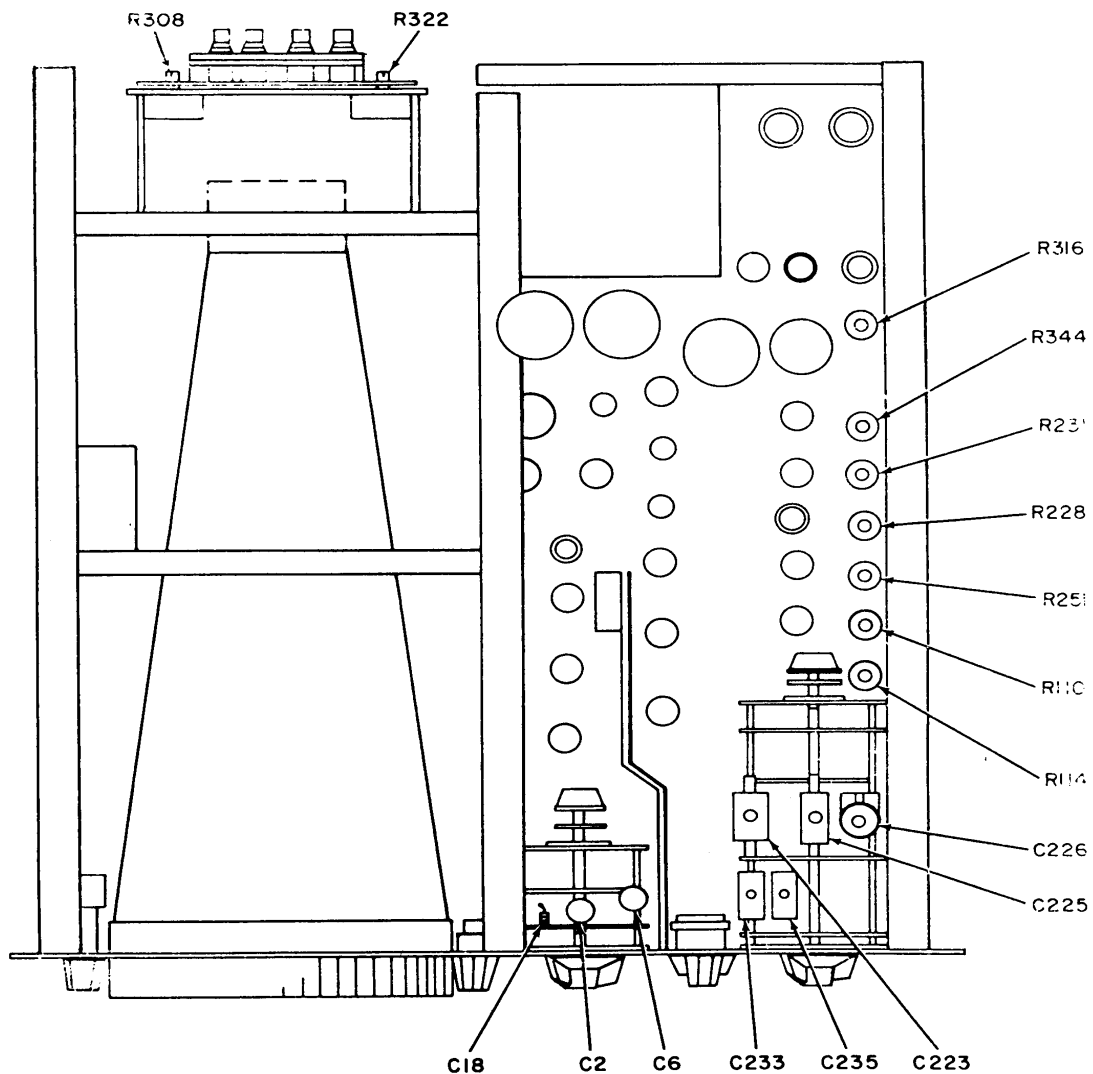
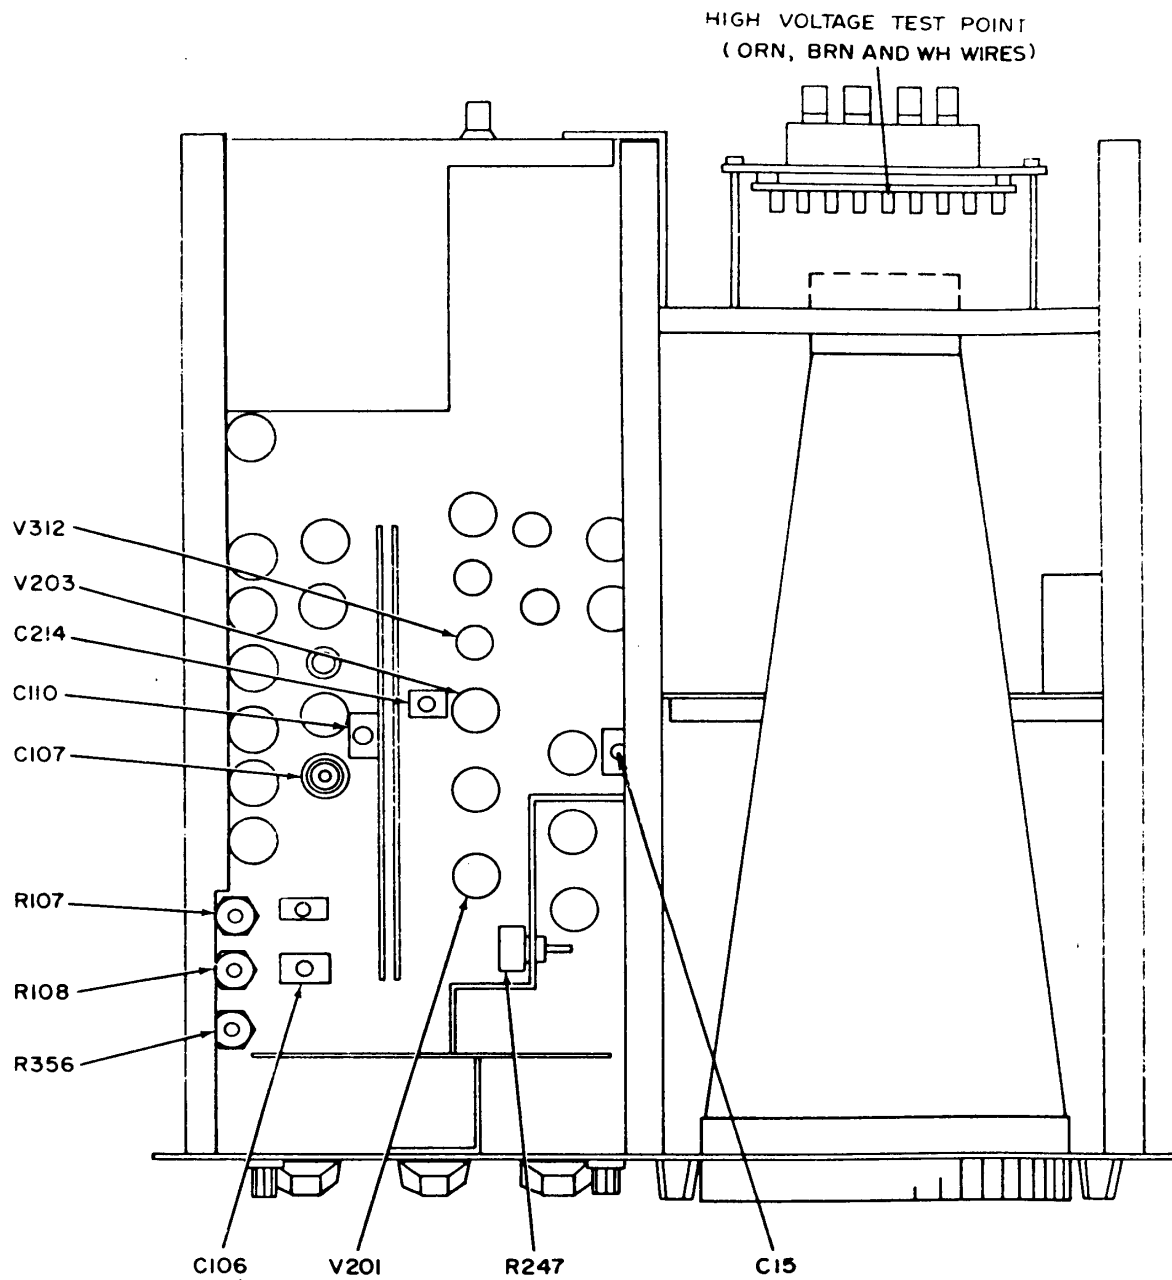

Figure 1. Oscilloscope - top view.
Figure 2. Oscilloscope - bottom view.
- (1) Position TI controls as listed in (a) through (c) below:
- (2) Adjust R316 (fig. 1) for a small round spot.
- (3) Adjust R322 (fig. 1) until spot just disappears.
- (1) Turn VERT SENSITIVITY VERNIER control to midrange.
- (2) Adjust VERT. DC BAL. control (front panel) to center spot on graticule.
- (3) Vary VERT. SENSITIVITY VERNIER control and adjust VERT. DC BAL. control until no spot shift is observed.
- (4) Turn SWEEP TIME-HOR. SENS. VERNIER control fully counterclockwise.
- (5) Adjust R110 (fig. 1) to center spot on graticule.
- (6) Turn SWEEP TIME-HOR. SENS. VERNIER control to CAL.
- (7) Turn HORIZ. POS. control to center spot on graticule.
- (8) Repeat (4) through (7) above until no shift is observed when varying SWEEP TIME HOR. SENS. VERNIER control.
- (1) Adjust test oscillator amplitude for stable display on TI.
- (2) Adjust R247 (fig. 2) while reducing test oscillator amplitude until triggering becomes stable at minimum test oscillator amplitude (less than .70 volt rms).
- (3) Turn TI VERT. SENSITIVITY VERNIER control to CAL.
- (4) Connect ac/dc voltmeter (A1) between pin 8 of V203 (fig. 2) and chassis ground.
- (5) If no trace is present on TI, perform adjustments (a) and (b) below:
- (a) Adjust R228 (fig. 1) counterclockwise until trace appears.
- (6) If trace is present, adjust R228 clockwise until trace just disappears.
- (7) Record ac/dc voltmeter indication.
- (8) Connect lead (B7) with two adapters (B1), between pin 1 of V201 (fig. 2) and chassis ground.
- (9) Slowly turn R228 counterclockwise until trace appears and then clockwise until trace just disappears. Record ac/dc voltmeter indication.
- (10) Adjust R228 for indication of 2 volts more positive than value recorded in (9) above.
(11) Remove lead connected in (8) above.
- (1) Adjust voltage calibrator for a .3535-volt rms output.
- (2) Adjust VERT. GAIN control for 10 centimeters of display amplitude on TI crt.
- (3) Adjust voltage calibrator output to .3535 volt rms.
- (4) Adjust R114 (fig. 1) for 10 centimeters of horizontal display amplitude on TI crt.
- (R)
b. Adjustments. Adjust R356 (fig. 2) for display amplitude of 6 centimeters on crt.(R)
(1) Adjust C15 (fig. 2) for best square-wave response.